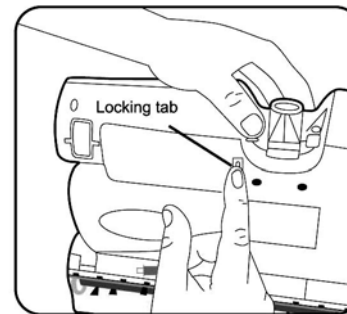

Fig. 16
2. Turn unit over so that the base is facing upwards. Be careful not to turn the unit ON. (Fig. 16)